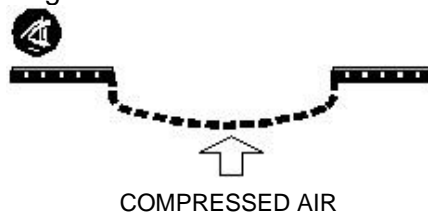

Figure 8-20: Burner Module Profile Compressed Air Orientation (Step 2)
2. Use only compressed air to clean the burners by blowing into the “flame” side of the burner mesh, as shown in Figure 8-20.